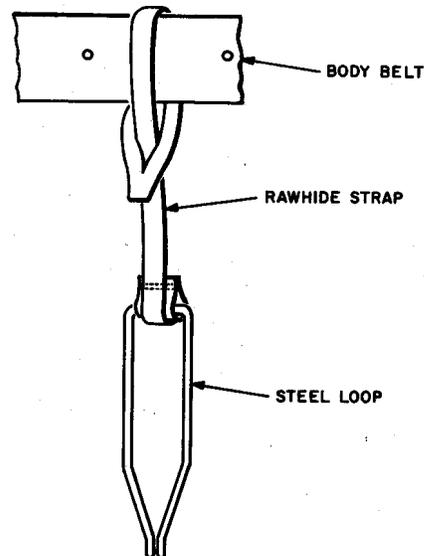

Fig. 1—B Handline Carrier
2.04 When necessary to carry the handline up a pole or ladder, secure one end of the handline to the B handline carrier (Fig. 1) attached to the body belt. The steel loop of the B handline carrier is designed to release the handline if it is placed under tension, while climbing a pole or ladder. If a B handline carrier is not available, double the end of the handline back on itself and place the loop under the side or back of the body belt, so it will be readily released if placed under tension.